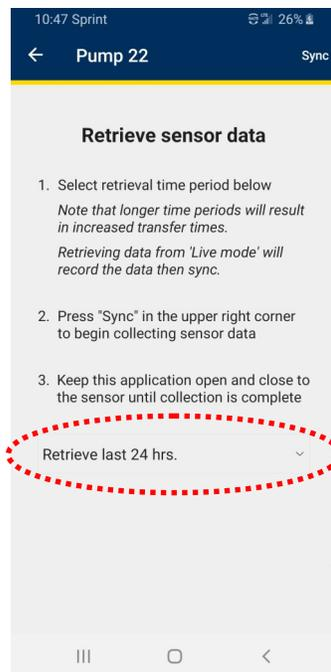

Figure 21
4. Use the drop-down menu to select the time period for data retrieval (see figure 21). Selecting longer sync periods will result in longer transfer times.